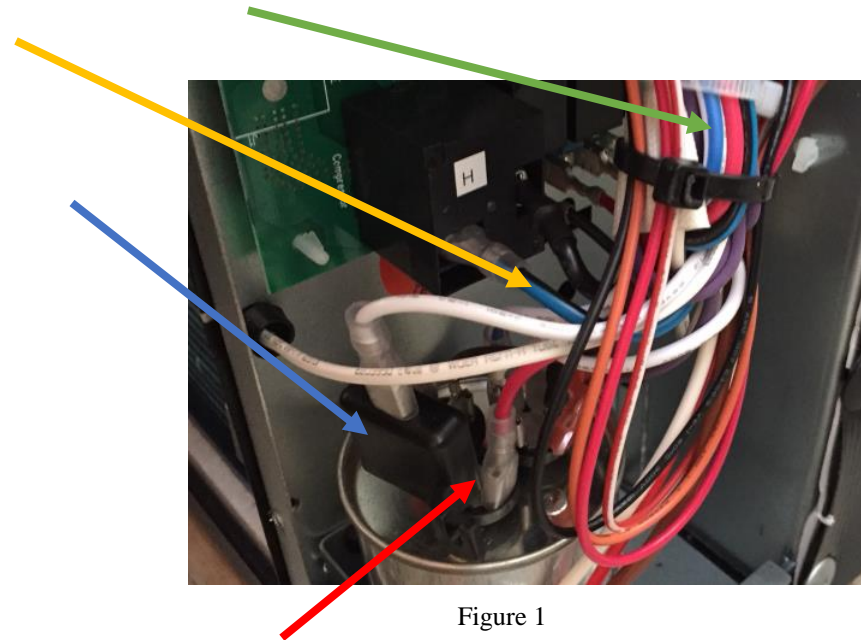

Figure 1
1. Remove the black PTC in figure 1 with the blue arrow. The white wire should loop around and connect to the “C” terminal. It can be removed as well.